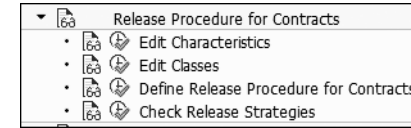

Figure 8.22 Release Procedure for Contracts
1. Navigate to **IMG (SPRO) • Materials Management • Purchasing • Contract • Release Procedure for Contracts**, as shown in Figure 8.22.